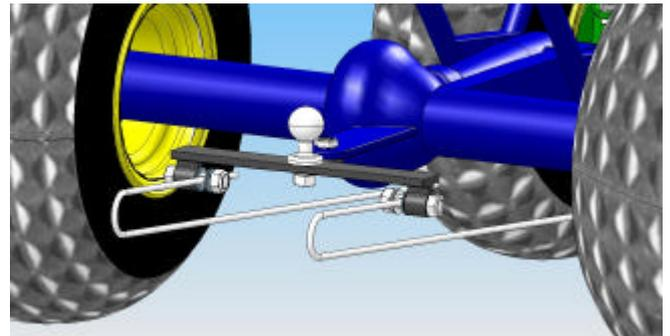

Figure 6: Runners in place
- Start at the quad rear and for each Runner feed the looped end through the hole in the Gripper bolt - between the two washers (Figure 6). Do not tighten the Gripper nuts.